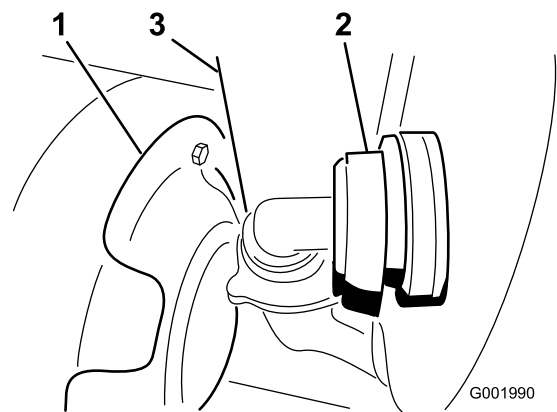

Figure 56
3. Disconnect the hose located on the lower-front face of the tank (Figure 56).
Note: You may need to push the heat shield (Figure 56) back as you remove the cover.